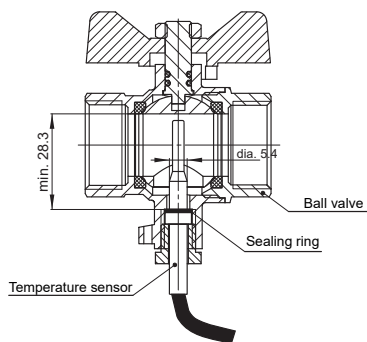

Fig. 1 Temperature sensor installed in a tee joint
- Before installing the temperature sensor in a tee joint or a valve, check that the temperature sensor fitting meets the requirements for the sensor **seat depth** and that the **seat diameter** matches the sensor diameter. See the dimensions in Fig. 1 and 2.